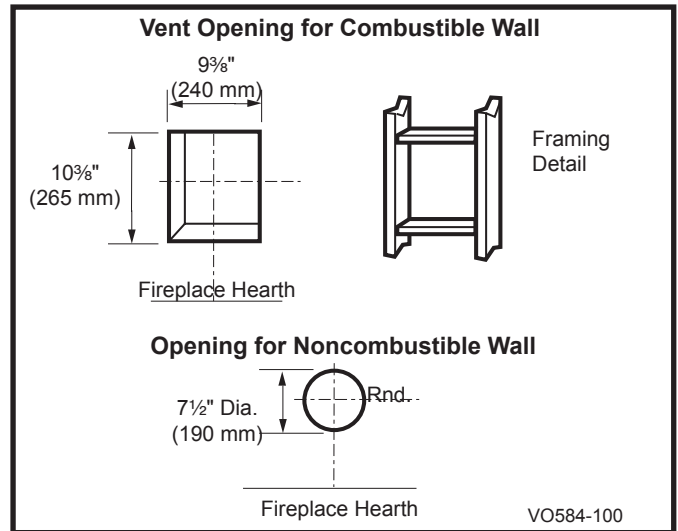

Fig. 13 Locate vent opening on wall.
Locate and cut the vent opening in the wall. For combustible walls first frame in opening. (Fig. 13)
**Combustible Walls:** Cut a 10 3/8"H x 9 3/8" W (265 x 240 mm) hole through the exterior wall and frame as shown. (Fig. 13)